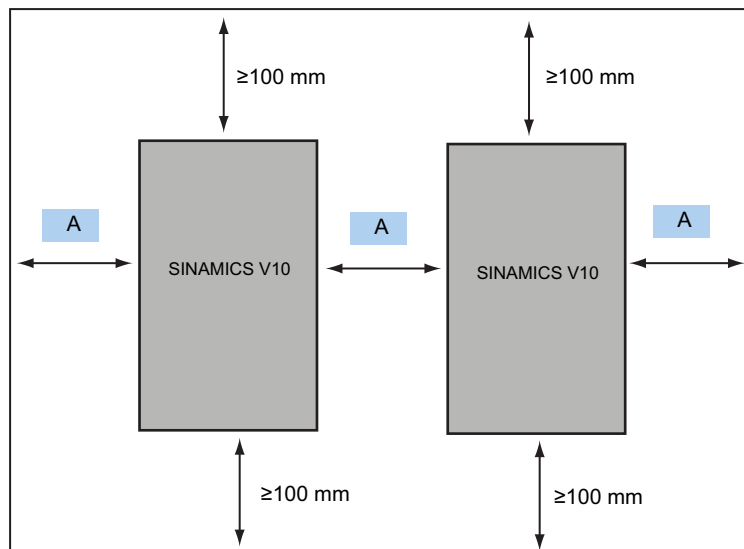

Figure 5-3 Inverter mounting clearance
- Allow at least specified clearance A (see Figure 5-3 and Table 5-1 below) between the inverters.